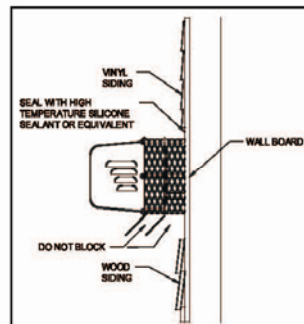
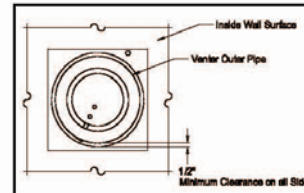

Figure 2
Figure 3
3. After determining the location of the venting system termination point (See Diagram A), cut a square hole through the wall at least 1" larger than the outer pipe diameter of the power venter. Mount the power venter through the wall, keeping the outer pipe centered in the hole. (See Figure 3) Fasten the power venter to the outside wall with appropriate fasteners, sealing the edges of the power venter base plate to the wall with a high temperature silicone sealant. DO NOT enclose the spaced plates on the power venter body. This will result in reduced cooling of the power venter body. Wood or vinyl siding should be cut so that the unit mounts directly on the wall board to provide a stable support. If the siding is greater than 1/2" thick use a spacer plate or board behind the power venter mounting plate. (See Figure 2)
**NOTE:** If mounting the power venter through a combustible wall material and the flue gas temperature is above 400°F at the power venter inlet, line the square hole with a piece of corrosion resistant sheet metal or non-combustible material. The liner piece should be the same width as the wall section. (See Figure 3) The power venter has a maximum flue gas temperature of 550°F at the venter inlet. For installation in wall thicknesses over 8 inches, use SWG Series Through Wall Extension Kit, Model PEK.